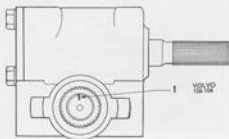
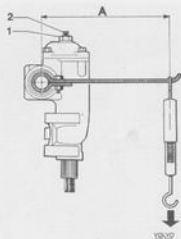

Fig. 6-62. Center position
Fig. 6-63. Checking tensioning, cam — roller
2. Place the steering gear in the middle position (Fig. 6-62). Remove the four bolts (1, Fig. 6-41) for the upper cover (6). Pull up the cover and pitman arm shaft a bit and drain the oil. Pull out the cover and pitman arm shaft.
3. Remove the bolts and lower cover (19). Take care of the spacers (22).
4. Carefully knock on the steering worm shaft (10) so that the lower bearing outer races come loose from the housing. Take out the steering worm with bearings.
5. Remove the locknut (3) and screw the adjusting screw (2) out of the cover. The adjusting screw
7. Locate the steering gear centrally (see Fig. 6-62). Screw in the adjusting screw so far that a noticeable resistance is felt when rotating it forwards and backwards over the centre position. The adjustment of the "pressure point" can be measured in different ways. The measurement, for example, can be done with a cord and balance, see Fig. 6-60, in which case the balance should give a reading of 80—140 N (18—31 lb) when it pulls the guide bolt over the center position. With the swing iron and spring balance position as shown in Fig. 6-63, the balance should give a reading of 4—7 N (9—15 lb). When the gear is properly located, lock the adjusting screw by means of the stop nut. Repeat the test after the stop nut has been tightened securely.